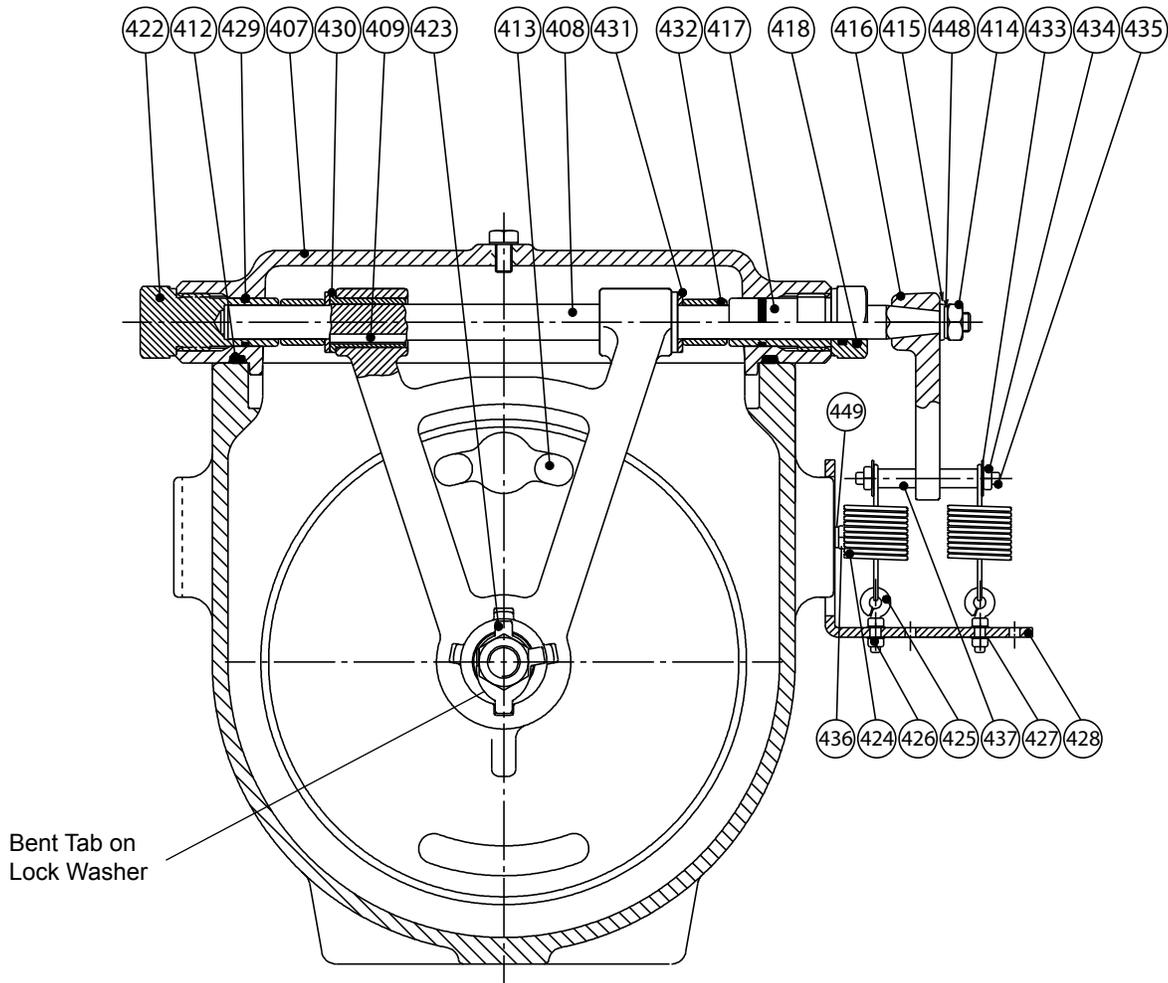

Fig. 7
**Note:** When ordering, specify whether your valve is resilient seated or metal seated. For 10-inch and 12-inch valves, two (2) Bonnet O-rings (429), Two (2) Hinge Connectors (430), two (2) Retaining Washers (431) and two (2) Shaft Spacers (432) are also required for assembly. (See figure 7) No Disc Bushing is required for the Disc Assembly.
2. Remove the bushings. For valves with a lever, one bushing is open (417) and one bushing is closed (422). For valves without a lever, both bushings are closed (422).
- a. Valve sizes 3-inch through 8-inch, without a lever, have Bonnet O-rings (429) only.
- b. Valve sizes 10-inch and 12-inch without a lever have two two (2) Bonnet O-rings (429).
- c. Valve sizes 10-inch and 12-inch, equipped with a lever, have two (2) Inner Bushing O-rings(418), and two (2) Bonnet O-rings (429).
- d. 3-inch through 8-inch valves equipped with a lever, have two (2) Inner Bushing O-rings (418) located inside the Open Bushing (417) and two (2) Bonnet O-rings (429).
4. Slide the Shaft-Hinge-Disc assembly from the bonnet (407).
5. Remove the Disc Nut (401) , Disc Bushing (403) Disc Washer (402), and Disc Lock Washer (423)\* to remove Disc (413) from Hinge (404).
NOTE: On 10-inch and 12-inch valves, a tab on the Disc Lock Washer must be bent to remove the lock washer. ( See figure 7 )